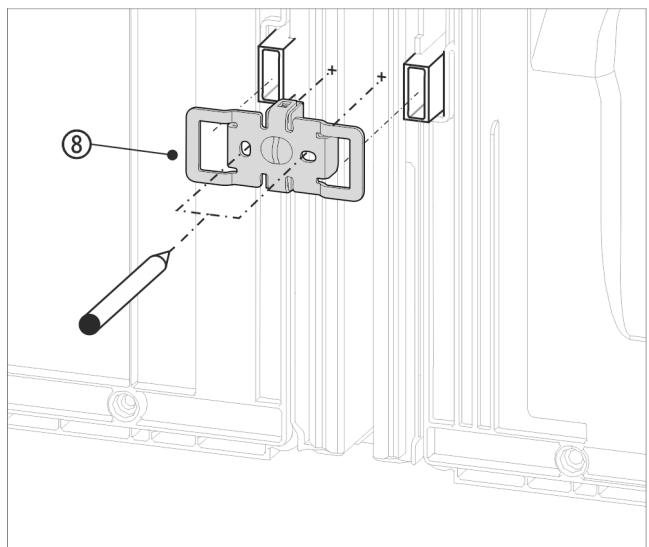

Fig. 16 Example illustration
- Slide the bracket *Fig. 16 (8)* on with the slots over the retainers for the wall spacers.